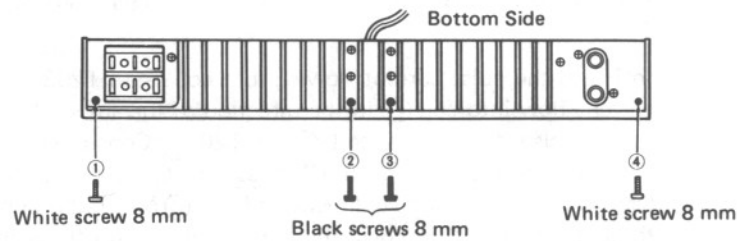

Fig. 2
3. Remove 4 setscrews (① ~ ④ in Fig. 2) which secure radiator on the rear panel.